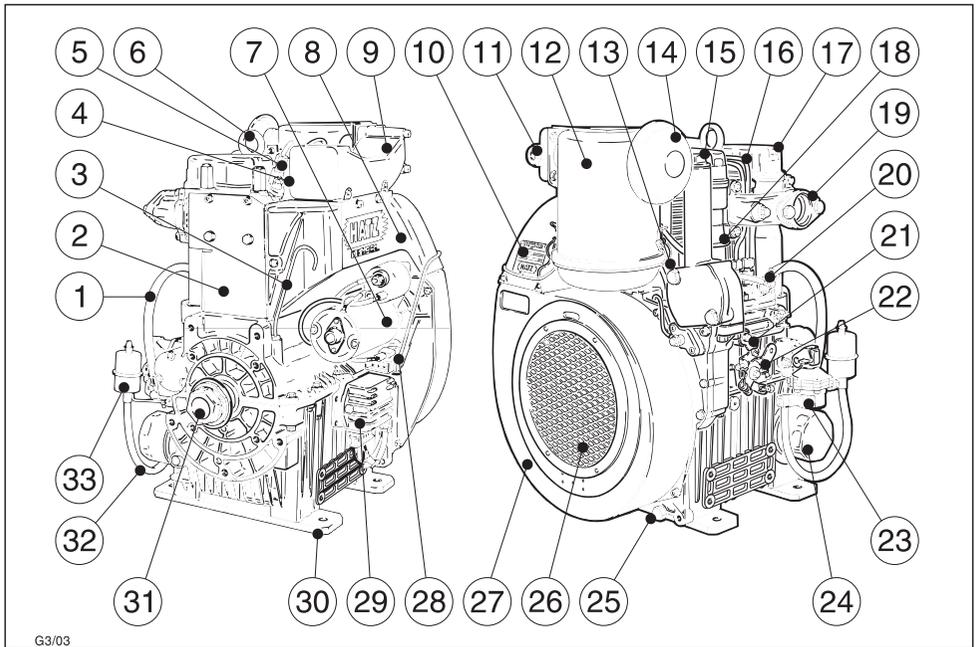

Fig. 1
The type plate is placed on the air guide (Fig. 1, pos. 10) and includes the following engine information:
- ① engine type
- ② code (only for special equipment)
- ③ engine number
- ④ max. engine speed